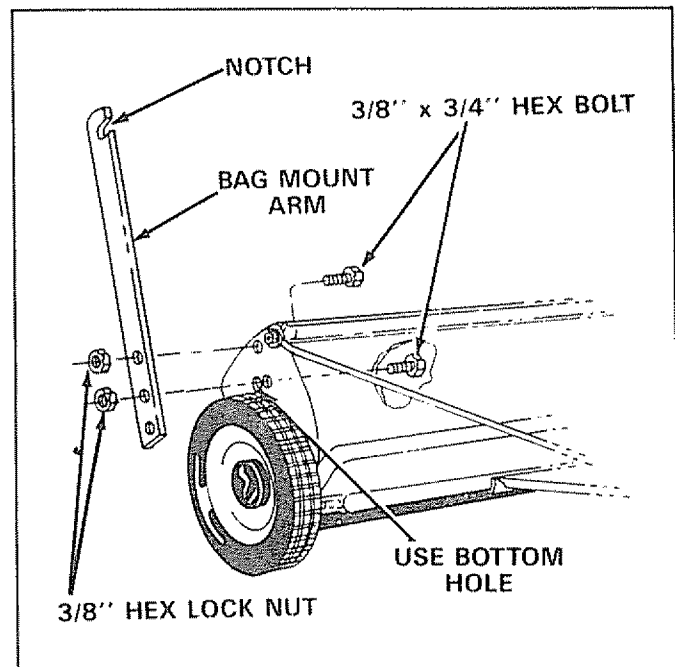

FIGURE 8
10. Assemble the two bag mount arms to the outside of the sweeper housing using four 3/8" x 3/4" hex bolts and 3/8" hex lock nuts. Use bottom hole of dual position holes in sweeper housing to install bag mount arm. THE NOTCHED SIDE OF MOUNT ARMS FACE UPWARD AND MOUNT ON THE OUTSIDE OF HOUSING. See figure 8.